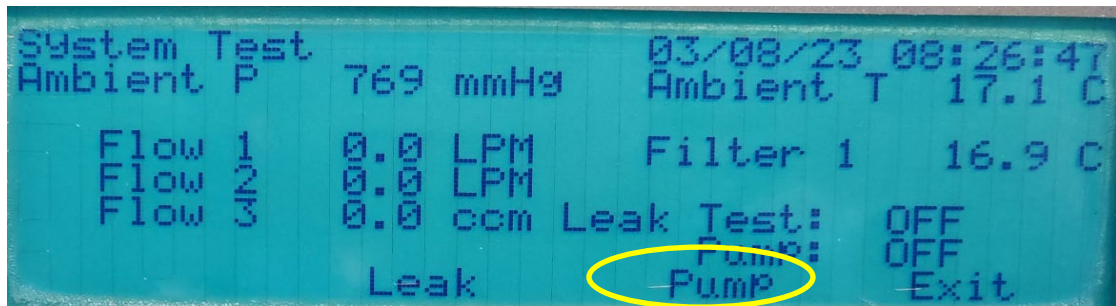
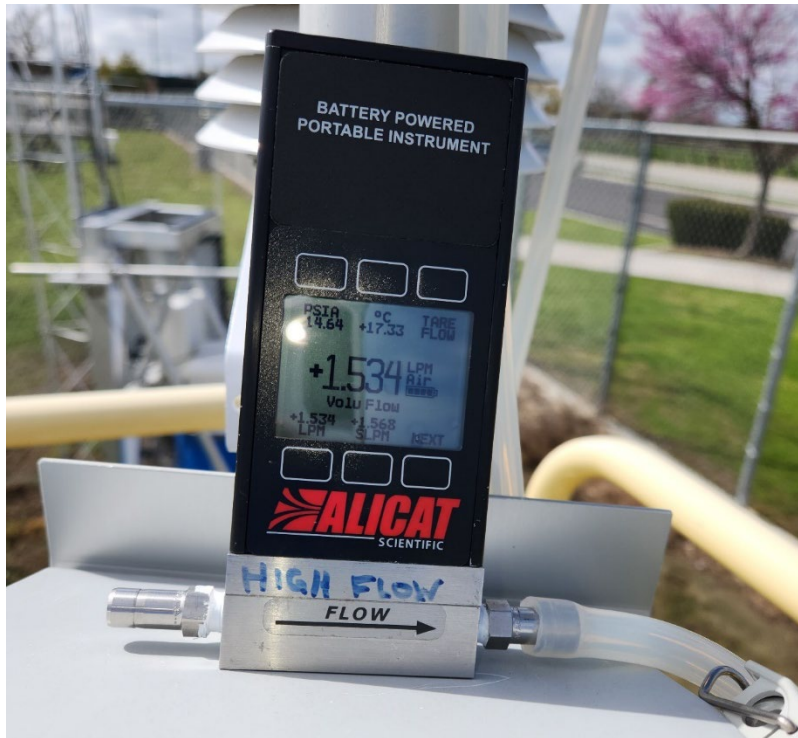

Figure 18: System test
Figure 19: Alicat flowmeter on top of the Met-One
- 3.3.5 Press "**Pump**", using the white button located on the bottom command, then "**Continue**" to start the pump (Figure 18). Let the machine run for a couple of minutes before measuring the flow with a flowmeter (Figure 19).
- 3.3.6 Tare and attach the Alicat flow meter to each connector. For the chloropicrin sorbent tube, use the low-flow meter. For MITC and Multi-Residue sorbent tubes, use the high-flow meter. The flow meter can be placed on top of the control panel for a one-minute observation of the flow. Check to make sure the tubes are not twisted or pinched (Figure 19).